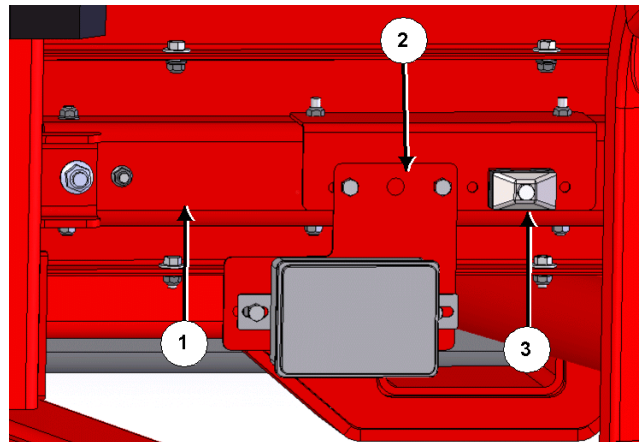

Figure 12: Install load cell junction box
9. Re-install the load cell junction box bracket and hydraulic hose clamp onto the front conveyor slide, as per *Figure 12*.
- a. Line up the holes on the load cell junction box bracket (2) with those on the front conveyor slide (1), and fasten using existing hardware.
- b. Fasten the hydraulic hose clamp (3) to the front conveyor slide assembly using the previously removed hardware, a 5/16" x 2" hex bolt and a 5/16" flange lock nut.